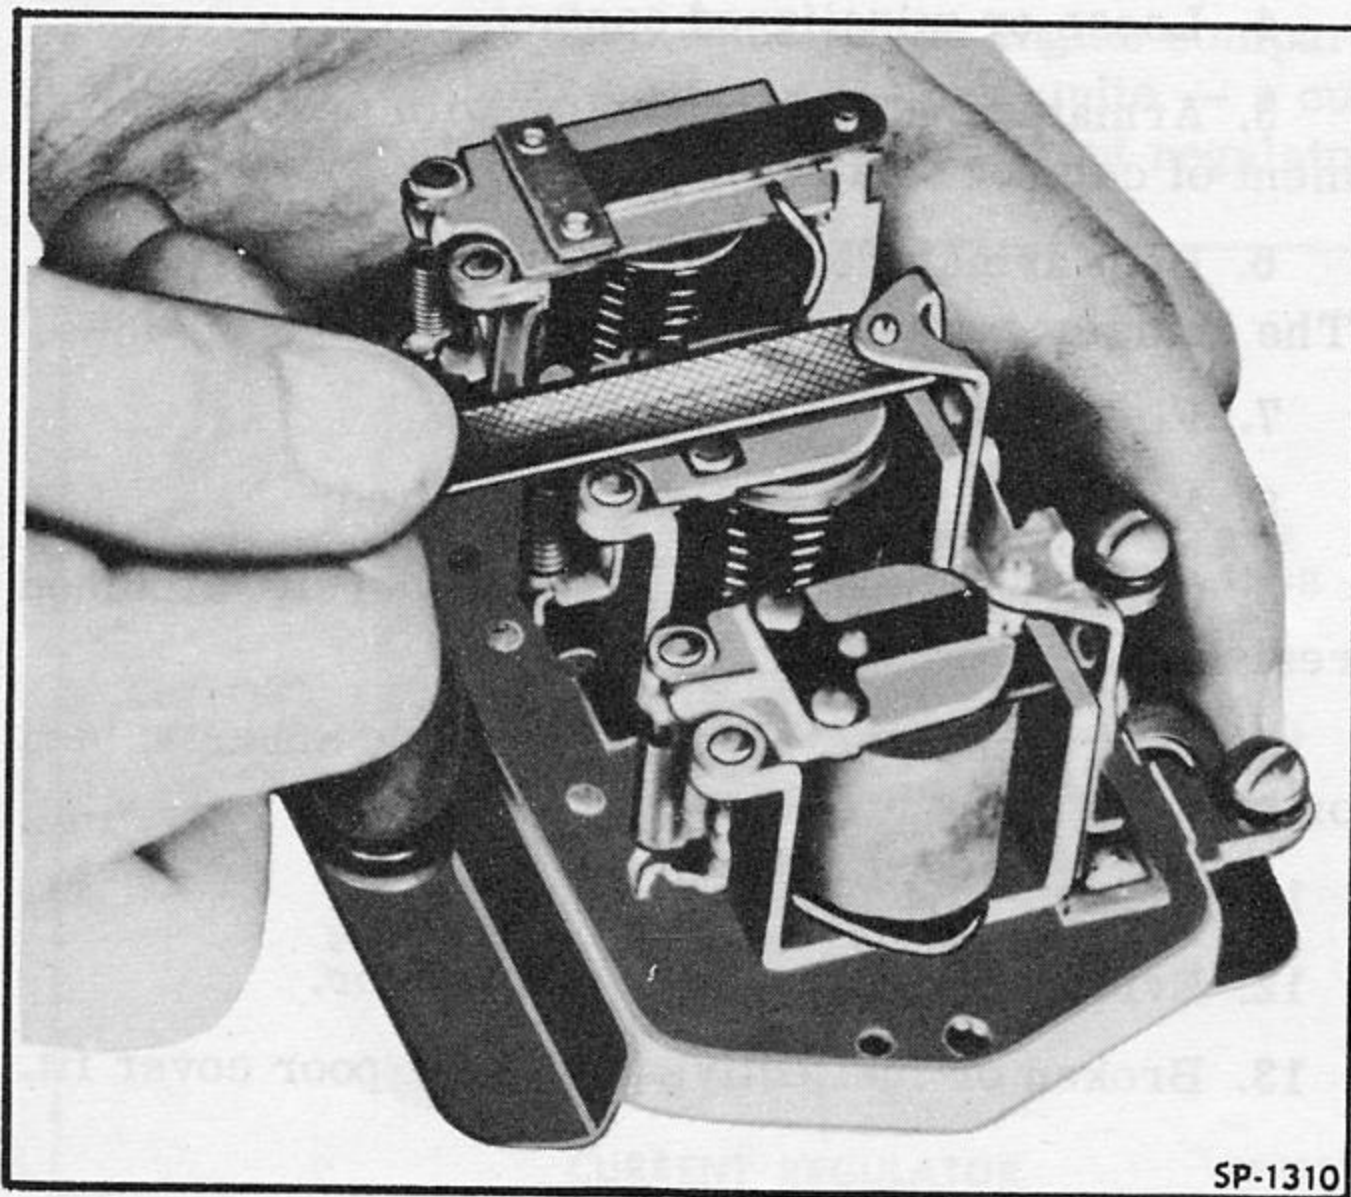

Fig. 271—Dressing Regulator Contacts with Fine File
1. **CHECK AND CLEAN CONTACT POINTS.** With the regulator cover removed and the battery disconnected, carefully inspect the points on each regulator unit. The mating surfaces of regulator contact points that have been giving good service normally present a silver gray appearance, and require no filing. If contacts are burned, dirty, or rough, dress them with a thin, fine-cut ignition point file (Fig. 271), or an abrasive contact point dresser (never with sandpaper, carborundum or emery cloth). File the rounded contact carefully to avoid removal of too much metal. Move the file or dresser parallel to the length of the armature.